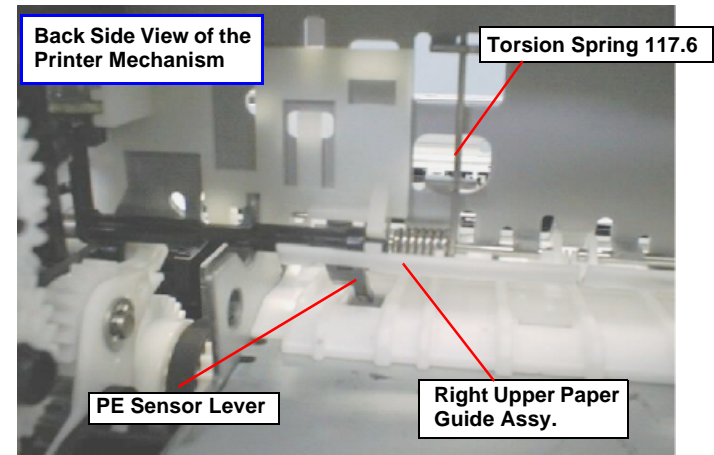

Figure 4-57. Installing the Right Upper Paper Guide Assy.
- When the Right Upper Paper Guide Assy. is set on the Top Frame with the Torsion Spring 117.6, make sure that PE sensor lever is set in the square hole on the Right Upper Paper Guide. Insert the Right Upper Paper Guide from the front setting the PE Sensor Lever in the square hole in the Right Upper Paper Guide Refer to Figure 4-57.
During assembly, make sure that the tip (sensor part) of the detector lever is in the hole of Right Paper Guide Assembly. Refer to Figure 4-57.